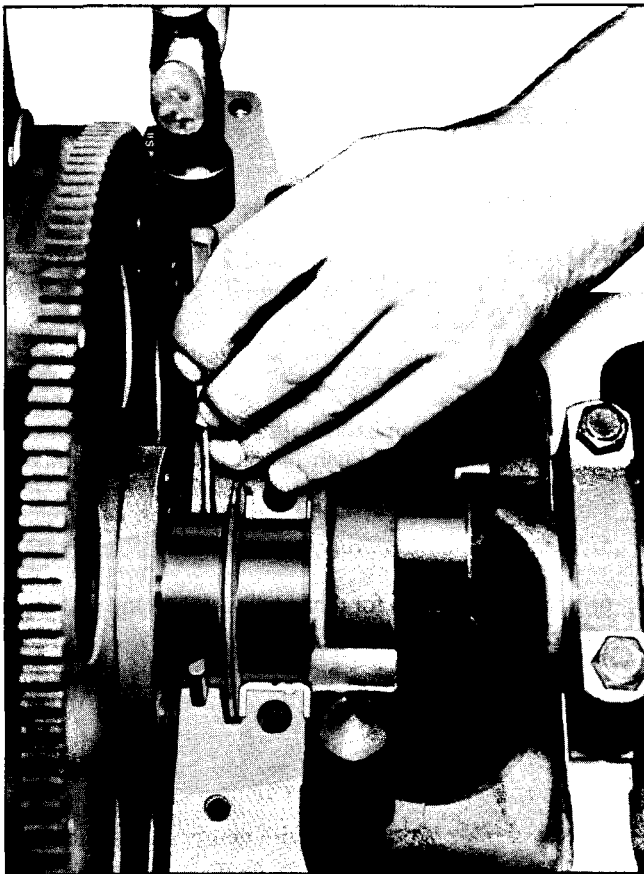

Fig. 6-54 Removing Oil Seal
5. To remove the upper half of the seal, use a small hammer and brass pin punch to tap one end of oil seal (Fig. 6-54) until it protrudes far enough to be removed with pliers. Push new seal into place with lip toward engine front.